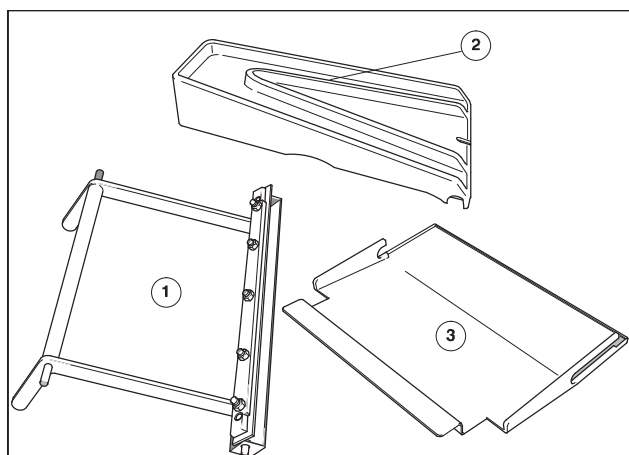

Fig. 23 Washup device
- the washup blade (Fig. 23/1),
- the feed for washing fluid (Fig. 23/2), when the numbering inking unit in the press is to be cleaned,
- the drip pan (Fig. 23/3) under the numbering inking unit.